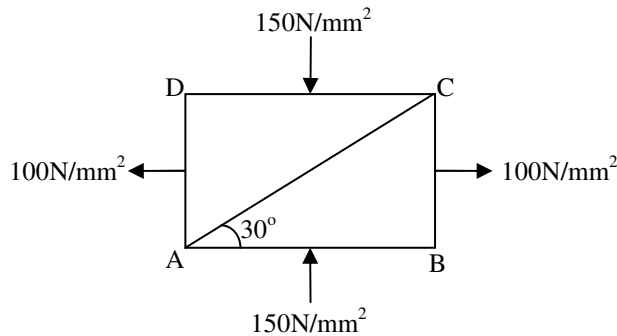

figure 9 [Q-6(c)]
- (c) The direct stresses at a point in the strained material are 150 N/mm^2 compressive and 100 N/mm^2 tensile as shown in **figure 9**. There is no shear stress. Find the normal and tangential stresses on the plane AC. Also find the resultant stress on AC. **07**